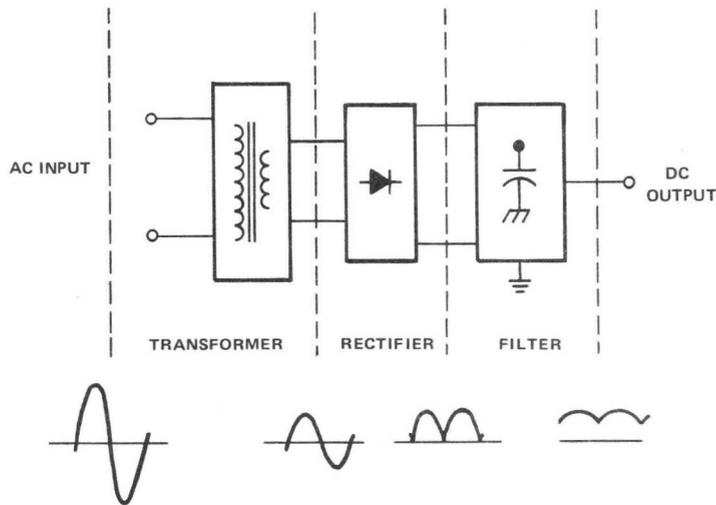

Figure 7.1. Input Supply
The input supply consists of three basic sections: (1) input transformer, (2) rectifier, and (3) filter as shown in Figure 7.1.